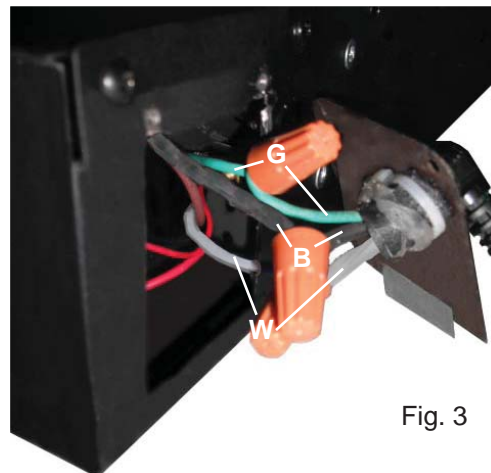

Fig. 3
- B. Remove the wire connectors from the power cord. The power cord may be discarded. Refer to Figure 3.
- D. Using the wire connectors, connect the common white wires (W) together, then the hot black wires (B), and then the ground green wires (G), refer to Figure 3.